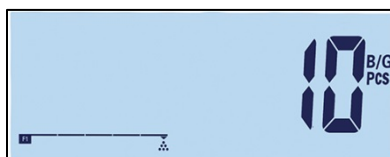

Figure 2-19: Piece Count Display
4. Load the parts to be counted. The count will be displayed (Figure 2-19).